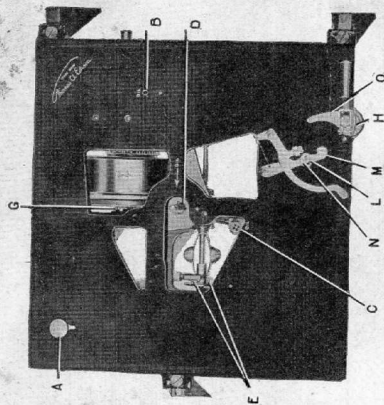

Fig. 2
Refer to Figures 2 and 3.
- B (Fig. 2) Oil Cup (fill with oil).
- C (Fig. 2) Oil Cup (fill with oil).
- D (Fig. 2) Upper Spindle Bearing (oil freely).
- E (Fig. 2) Governor Friction Felts (one or two drops on each).
G (Fig. 2) Oil tube to Spring Sleeve (oil freely).
H (Fig. 2) Operating Handle Bearing (3 or 4 drops).
I (Fig. 2) Horn Pivot Bearing (Horn compartment) (5 drops).